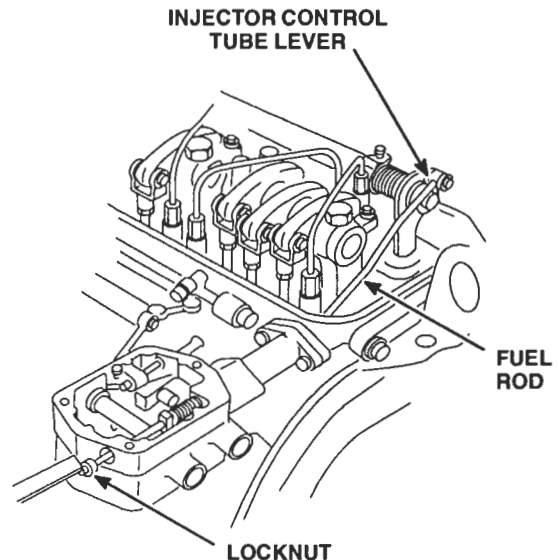

Figure 1. Adjusting Fuel Rod
2. Loosen the fuel rod locknut and remove the fuel rod knob (Figure 1.)